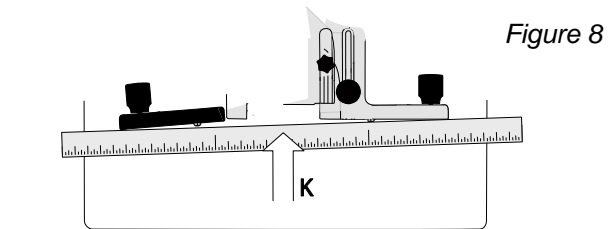
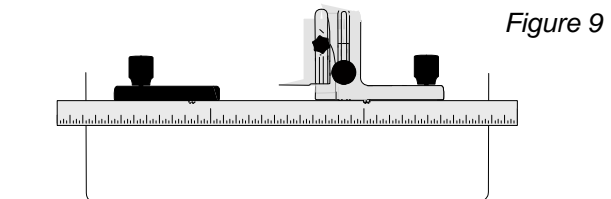
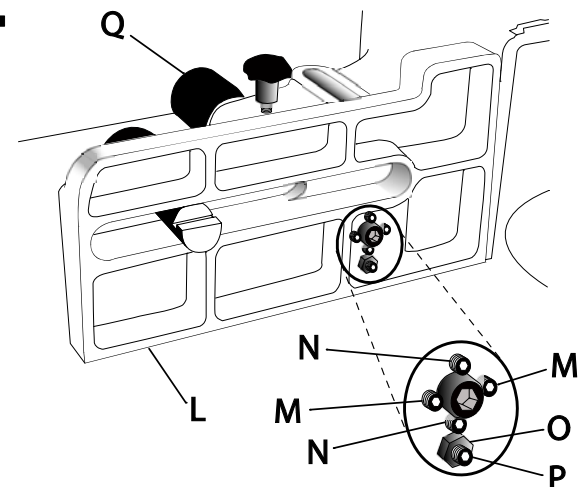

Figure 8
Figure 9
Figure 10
6. Remove both fences (J_1 , J_2) and place the straightedge against the infeed and outfeed fence castings (Figure 8).
7. Maintain steady pressure of the straightedge against the fence castings (K, Fig. 8). At the same time, attempt to bring both fences into alignment as shown in Figure 9. This is accomplished by alternately making incremental adjustments to two setscrews (M, Fig. 10) on the front face of the casting (L, Fig. 10) with a 3mm hex wrench, followed by repositioning the casting with the ram adjust dial (Q, Fig. 10) as required.
Important: It is recommended that the adjustment setscrews (M, Fig. 10) be rotated
8. Place a square against the *casting* (L, Fig. 10) and table.
9. If adjustment is required, adjust *setscrews* N (Fig. 10).
Alignment is complete when both fence castings are coplanar (in-line) as shown in Figure 9 and the outfeed fence is perpendicular to the table.
5. Using a 10mm wrench, loosen the *lock nut* (O, Fig. 10) that secures the *zero stop set-screw* (P, Fig. 10) on the *casting* (L, Fig. 10).
6. Loosen or tighten the *setscrew* (P, Fig. 10), as required, to bring fence castings into alignment as shown in M.
7. Tighten *lock nut* (O, Fig. 10).